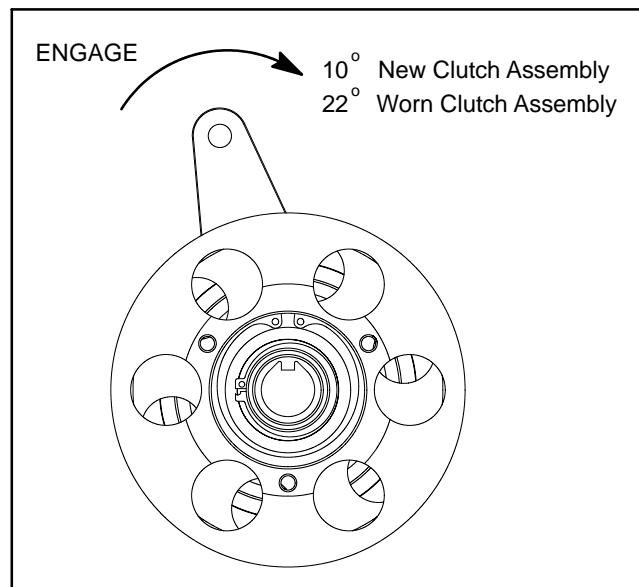

Figure 45
1. Before disassembling clutch, measure rotation angle of clutch lever (Fig. 45). If lever can be rotated more than 22°, the clutch assembly is worn and clutch replacement is necessary.